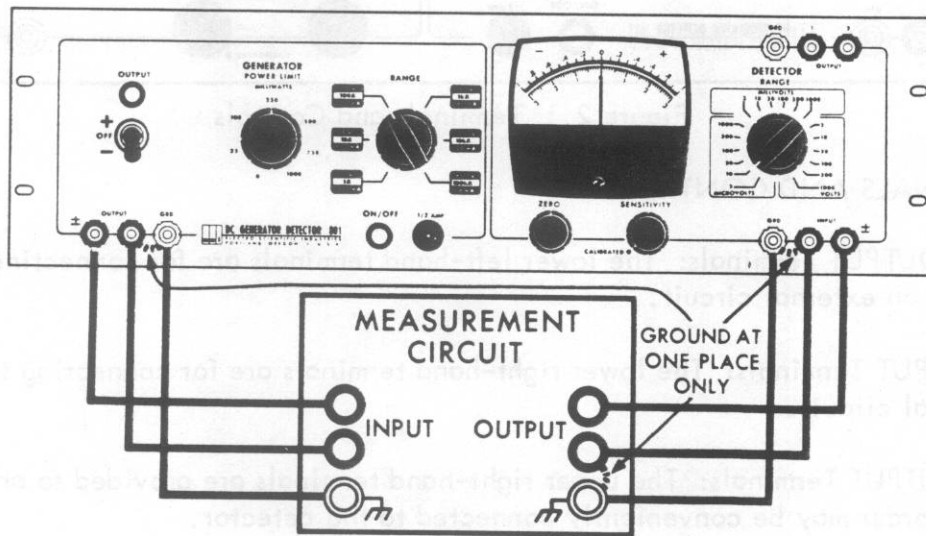

Figure 2.2 Basic Operating Procedure
2. Connect the measurement circuit to the generator OUTPUT and detector INPUT terminals as shown in Figure 2.2. The measurement circuit should be grounded at one point only, so that ground loop currents between chassis cannot flow through these leads.